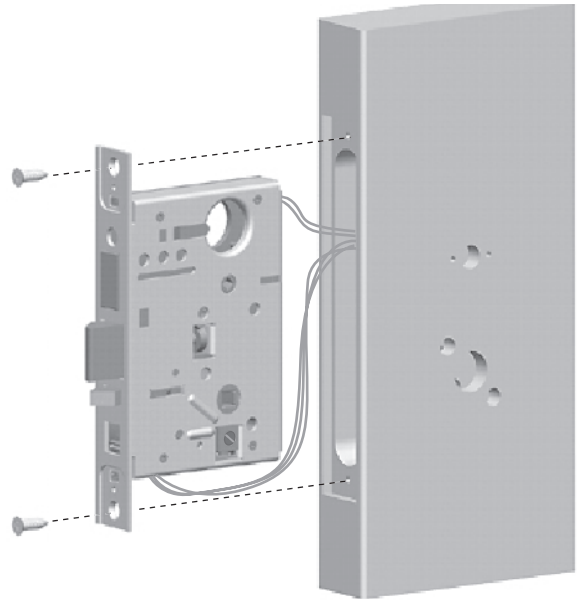

Figure 11 Installing the mortise case
- 4 Secure the mortise case with the case mounting screws (Figure 11).